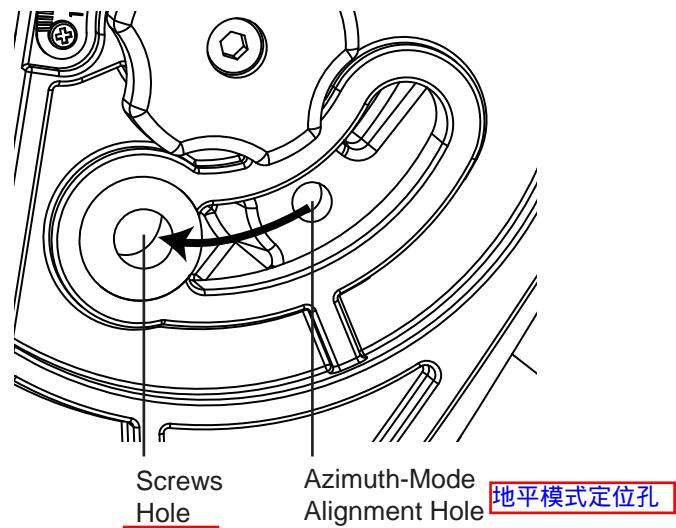

Fig. 2.4b
3. Jack up the R.A. axis's elevation until it reaches approximately 88 degrees and the jack-screw will disengage entirely. Lift the counterweight rod to align the azimuth-mode alignment hole with the upper screw hole on the left sidewall (Fig. 2.4b). Use the longer knurled screw to connect these two holes and tighten it with a 5mm Allen wrench. **3. 抬高赤经轴仰角至其接近约88度且顶紧螺丝完全脱离。通过左侧壁高处的螺丝孔将配重杆抬高至其与地平模式定位孔成一直线（图示2.4b）。用第二部中剩下的那个较长的滚花螺丝连接这两个螺丝孔并用5mm通用扳手拧紧。**